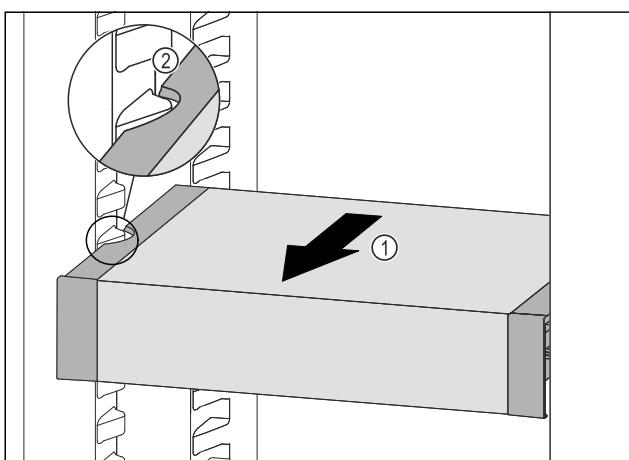

Fig. 96
► Pull VarioSafe forwards Fig. 96 (1) until the recesses in the side of the VarioSafe are at the level of the support rib in the fridge section. Fig. 96 (2)